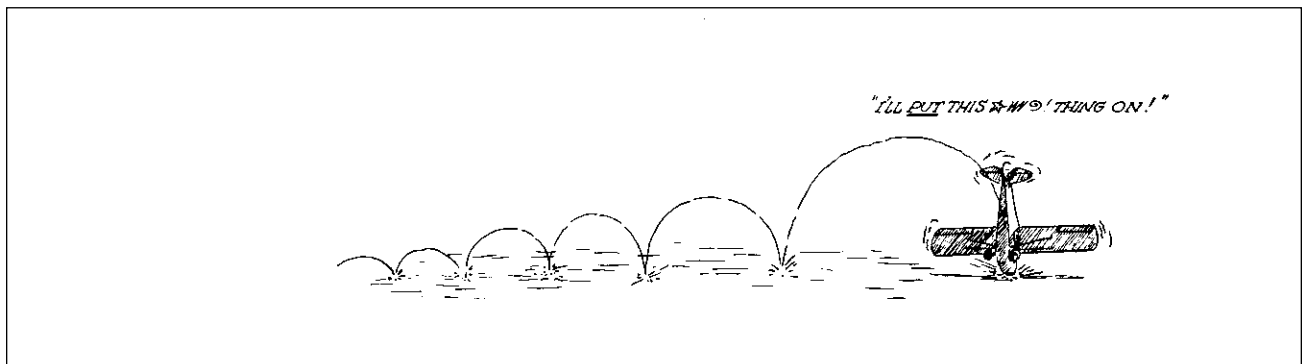

Figure 17-9. Some people are bound and determined to land on the first approach.
Too many students get impatient as the plane is skimming just above the ground and apply forward pressure to “put it on.” This sets off a series of bounces that would make a kangaroo turn white. The trouble is that once you start bouncing, it usually gets worse until you take it around again or something (usually the landing gear) gives (Figure 17-9).
3. Getting impatient—shoving forward on the wheel “to make it stay on” (Figure 17-9).